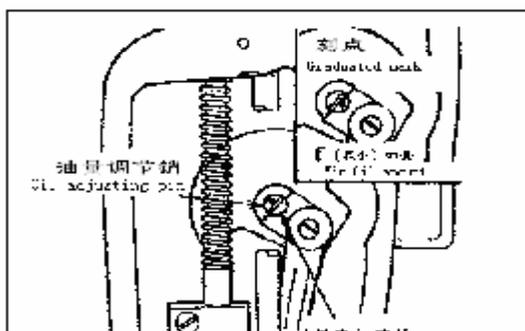

Fig.4
六、面部油量调节(图4)
转动油量调节销, 可以调节针杆连杆销的供油量, 调节销的刻点, 靠近针杆连杆销时, 油量最小, 反之, 则油量地大(图4).
6、How to regulate oil amount by means of manipulating elements on the face plate(Fig. 4)